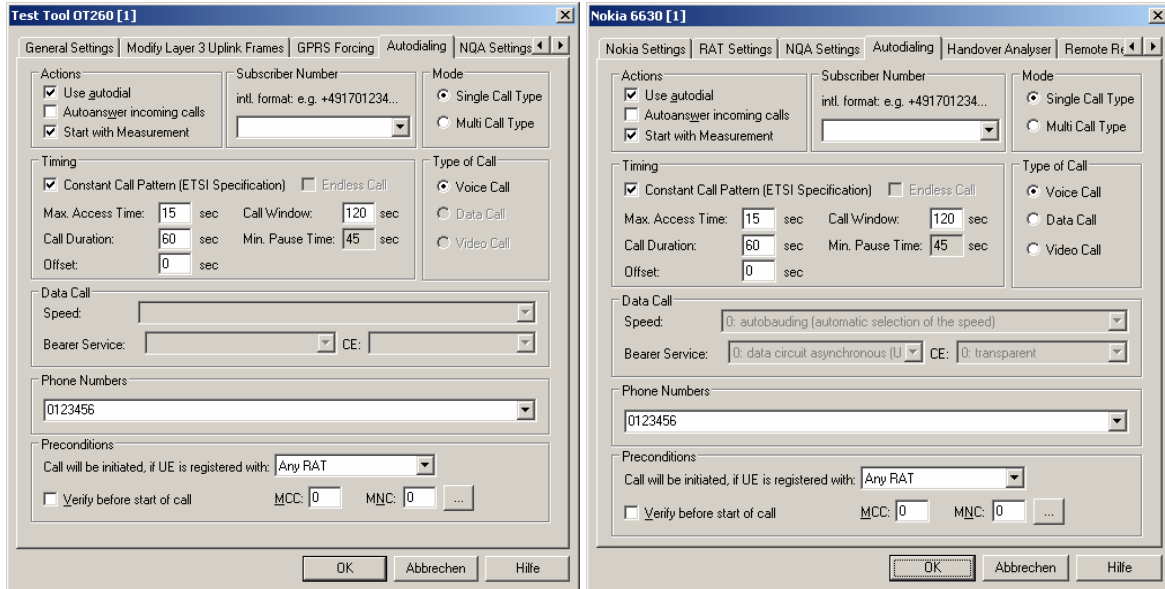

Fig. 6-21 Driver Configuration – Autodialing tab (all drivers, single call type)
- A single call is set up according to the settings in the remaining panels of the *Autodialing* tab (see Fig. 6-21 on p. 6.48). The call is periodically repeated if *Use autodial* is selected.